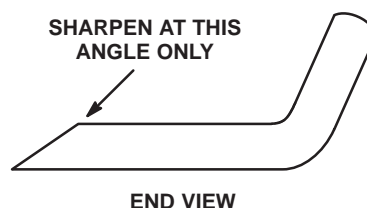

Figure 14
3. Inspect cutting edges of all blades. Sharpen the cutting edges if they are dull or nicked. Sharpen only the top of the cutting edge and maintain the original cutting angle to make sure of sharpness (Fig. 14). The blade will remain balanced if same amount of metal is removed from both cutting edges.